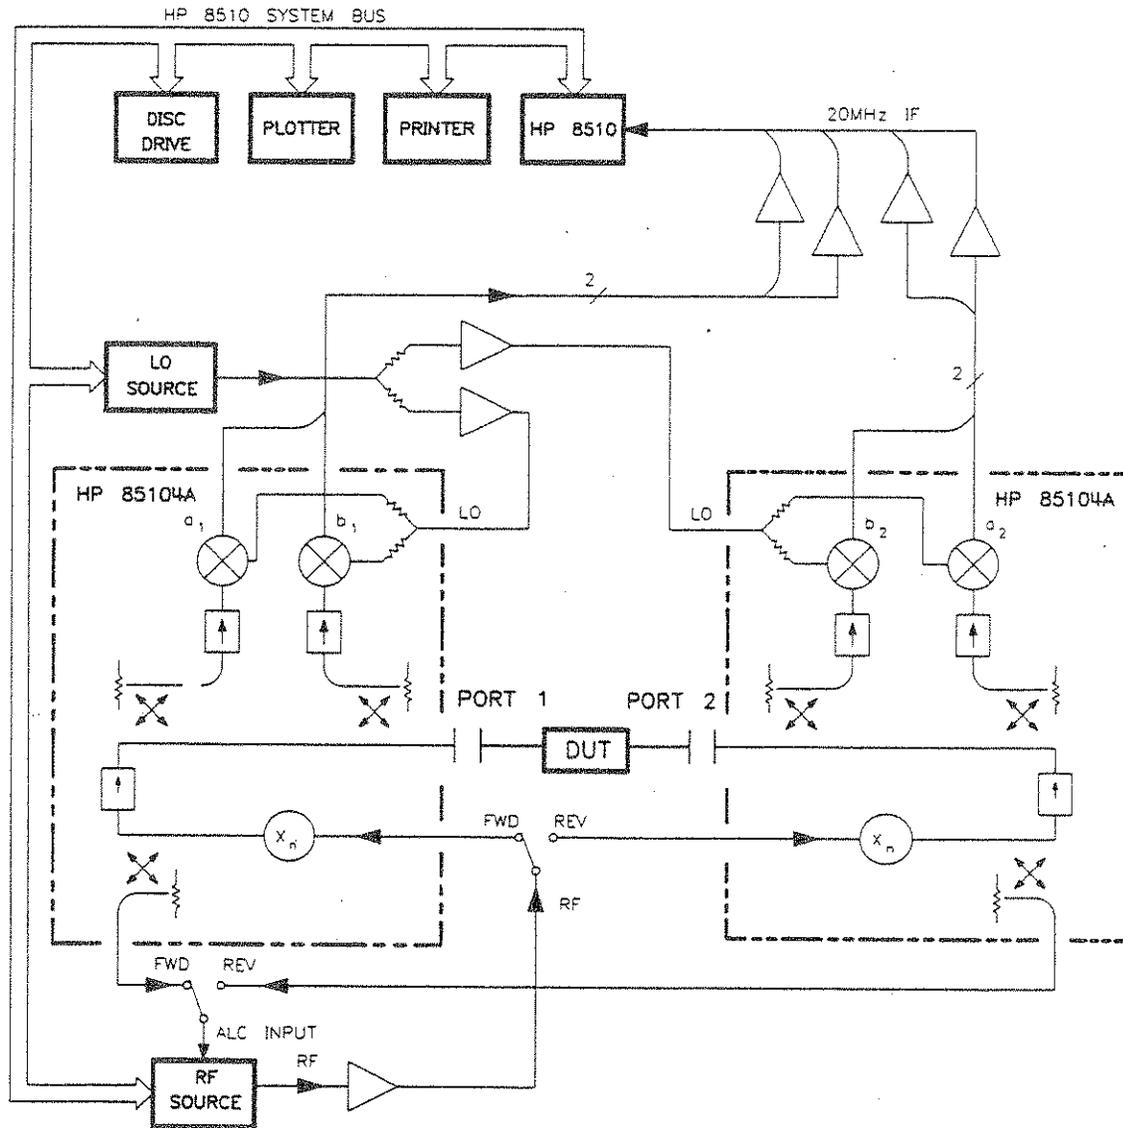

Figure 2-1. Simplified Block Diagram of the HP 85106B Millimeter-wave System
The HP 85106B Millimeter-wave Network Analyzer is configured for wide dynamic range S-parameter measurements of waveguide components. This setup allows automatic switching for all four S-parameters, making it unnecessary to manually disconnect and reverse the device during the measurement process. Figure 2-1 shows a simplified block diagram of this system, applicable to all waveguide bands. The HP 85106B mm-wave network analyzer system consists of an HP 8510B, two sources, a band-independent HP 85105A mm-Wave Test Set Controller, and a pair of band-dependent HP 85104-series mm-Wave Test Set Modules covering the 33 to 50 GHz, 40 to 60 GHz, 50 to 75 GHz, or 75 to 110 GHz waveguide band (Q, U, V, and W band, respectively). One source provides the RF (stimulus) signal and the second source provides the Local Oscillator (LO) signal.